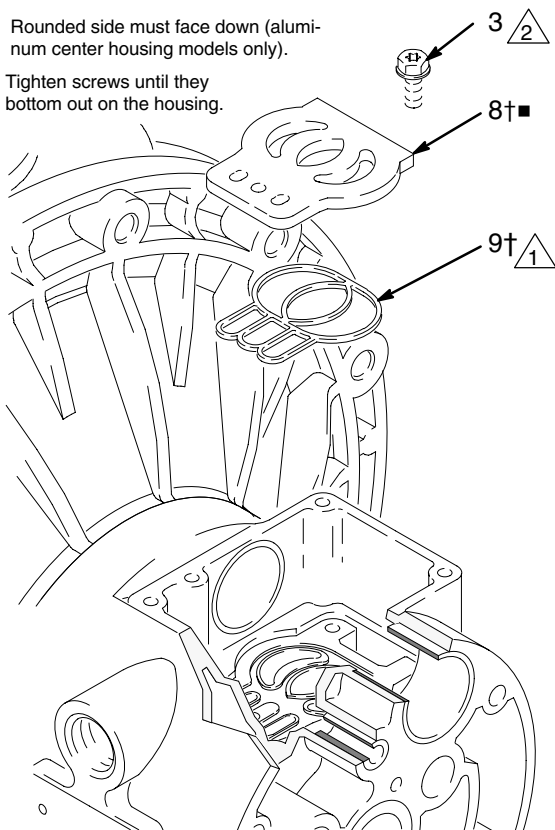

Fig. 9
5. Inspect the valve plate (8) in place. If damaged, use a Torx (T20) screwdriver or 7 mm socket wrench to remove the three screws (3). Remove the valve plate (8) and, on aluminum center housing models, remove the seal (9). See Fig. 9.
2. On aluminum center housing models, install the valve plate seal (9†) into the groove at the bottom of the valve cavity. The rounded side of the seal **must face down** into the groove. See Fig. 9.
3. Install the valve plate (8■) in the cavity. On aluminum center housing models, the plate is reversible, so either side can face up. Install the three screws (3), using a Torx (T20) screwdriver or 7 mm socket wrench. Tighten until the screws bottom out on the housing. See Fig. 9.